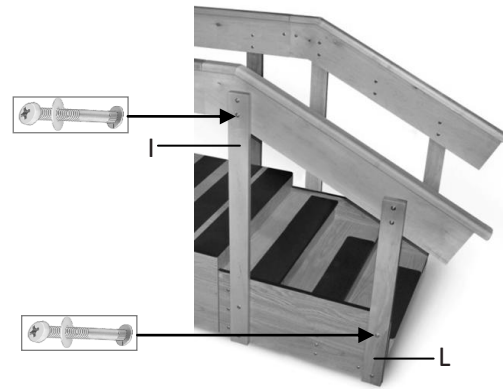

Figure 6: 4-Step Stair with uprights
6. Attach uprights (‘I’ & ‘L’ respectively) onto the 4-Step section, by matching up the dots on the upright with step section using four Hex head bolts ‘Q’ on the bottom of the uprights and two on the top of the 3rd step, and two Pan Head/Philips screw ‘R’ with Flat Washer ‘U’ and Barrel Bolt ‘S’ on the rest as shown in Figure 6.